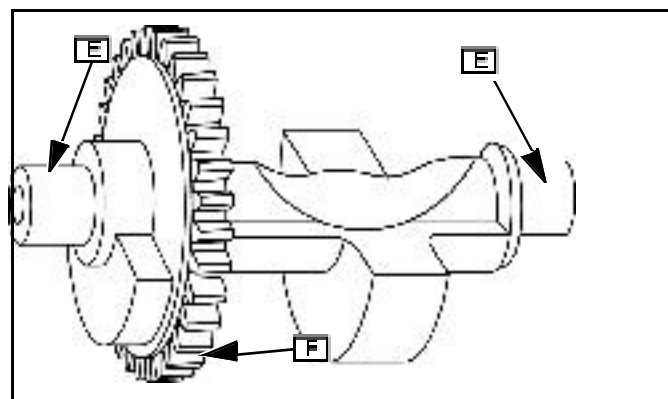

Fig. 9
4. Measure and inspect the counterweight shaft journals (E) and gear teeth ([F] Fig. 9). Replace shaft if worn beyond tolerances.